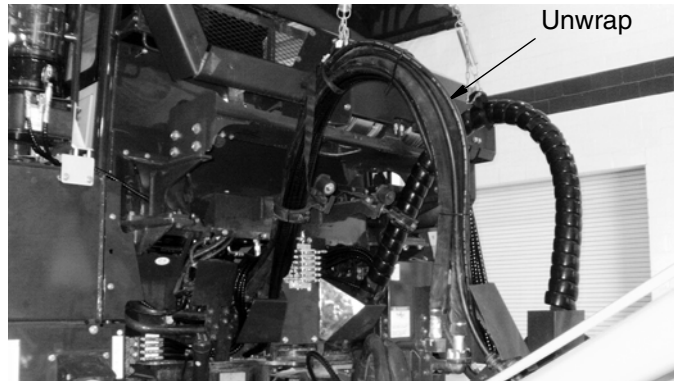

FIG. 104: HM300-5
1. Unwrap the hose wrap around the equipment's tubes and hoses on the left side of truck (FIG. 104).